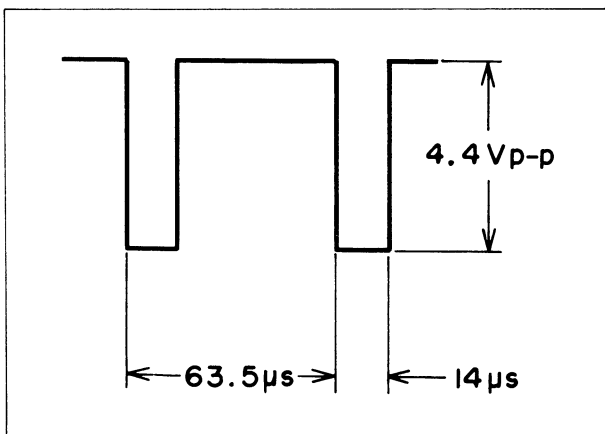

Fig. 5-75. HD waveform
1. Select the TV/CAMERA selector switch of the VTR to the CAMERA position and set the VTR to the recording mode. Verify that the waveforms as shown in Fig. 5-75 and 5-76 are observed at TP-14 (HD) and TP-15 (VD), respectively.